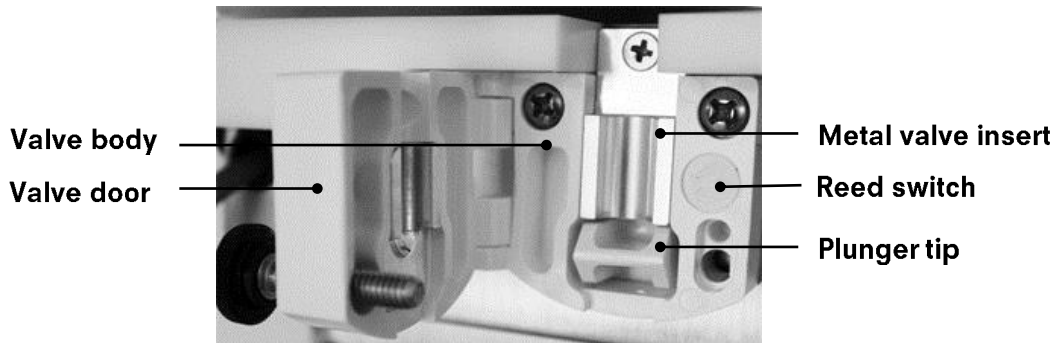

Figure 1
8. Remove the center screw that holds the metal valve insert in place (see Figure 1) and place in the container.